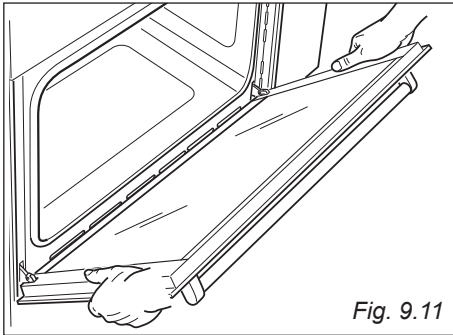

Fig. 9.11
- Hold the door as shown in fig. 9.11.